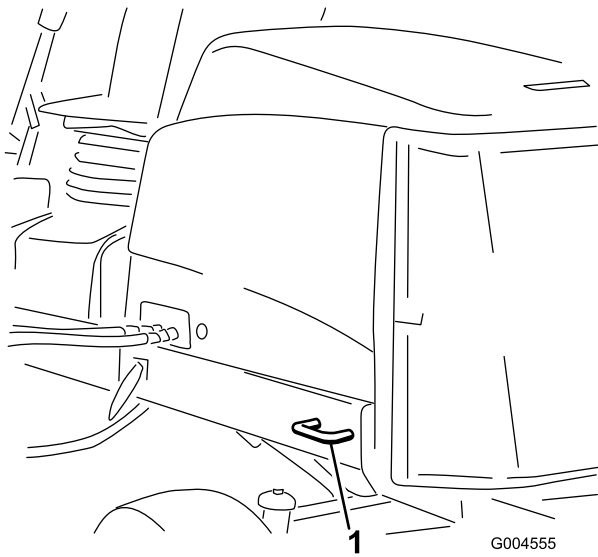

Figure 97
- **Rear of the machine**—each side of the machine on the rear frame (Figure 97).